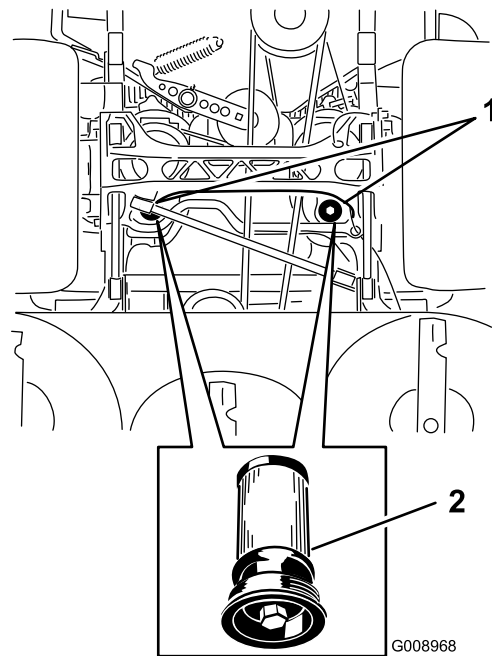

Figure 86
5. Place a drain pan under the filter, remove the old filter, and wipe the surface clean (Figure 86).
6. Apply a thin coat of hydraulic oil to the rubber gasket on the replacement filter (Figure 86).